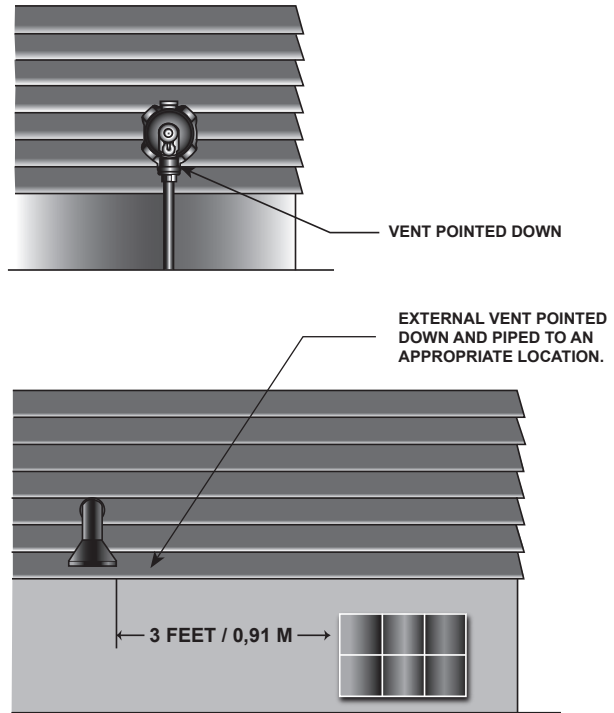

Figure 5. Typical Outdoor Installations with Regulator Vent and External Vent Pointing Downward
- Install the regulator with the vent pointed vertically down, see Figure 5. If the vent cannot be installed in a vertically down position, the regulator must be
- Install the regulator so that any gas discharge through the vent or vent assembly is over 3 feet / 0,91 m horizontally from any building opening below the level of discharge. See Figure 5.